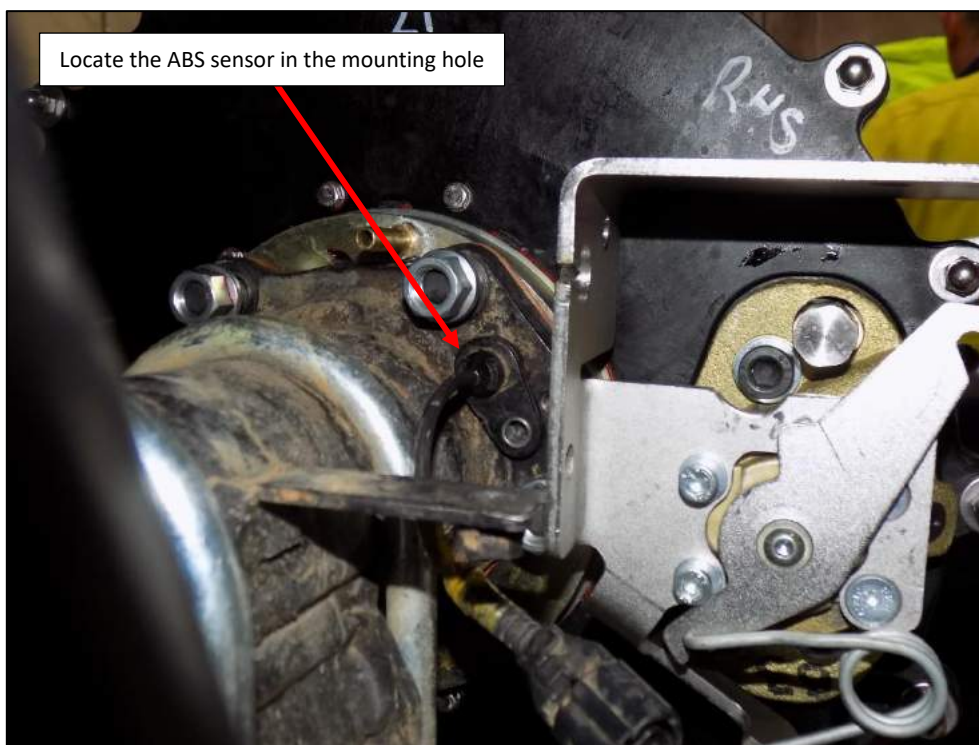

Figure 9
20. **[ABS equipped vehicles only].** Carefully push the ABS sensor into position in the axle flange (Figure 9). The brake may need to be rotated forward by hand to align the holes for the ABS sensor.